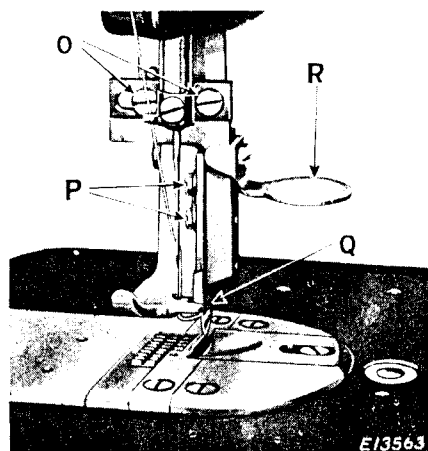

Fig. 20 Adjustments on Trimmer
The knife (Q, Fig. 20) should be set so that its cutting edge presses against the edge of the throat plate cutting bar to insure making a shear cut.
The sidewise adjustment of the knife is made by loosening the two screws (O, Fig. 20) and moving the knife holder to the right or left, as may be required, after which the two screws (O) should be
To adjust the knife to the correct height, turn the balance wheel over toward you until the knife is at its lowest position, then loosen the two screws (P, Fig. 20) and move the knife up or down on the knife holder, so that the cutting edge of the knife just passes the edge of the throat plate cutting bar, after which securely tighten the two screws (P). Care must be taken to keep the knife sharp.
To disengage the trimmer, pull out the plunger (A, Fig. 2) and raise the handle (R, Fig. 20) as far as it will go. To re-engage the trimmer, press down the handle (R).